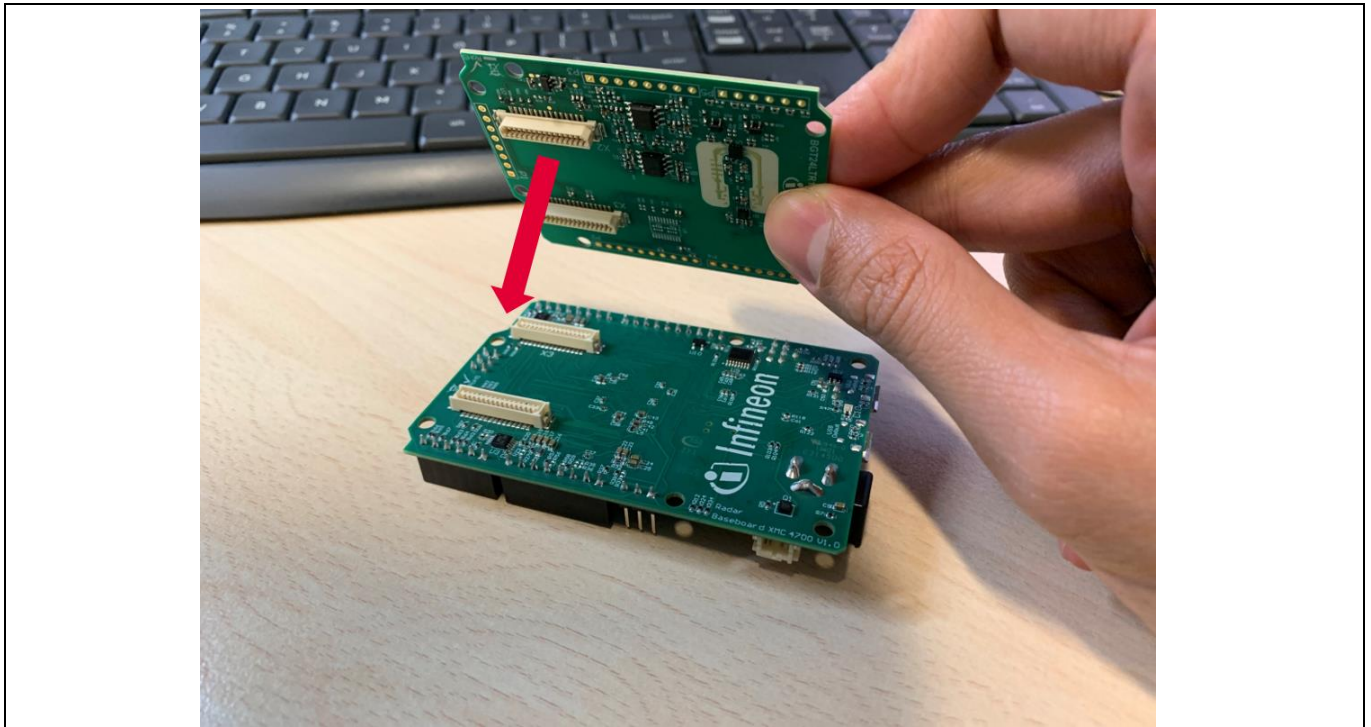

Figure 20 Attach the BGT24LTR11 radar shield to the radar baseboard XMC4700
- 4. Attach the BGT24LTR11 radar shield to the radar baseboard XMC4700 via the SAMTEC connectors (Figure 20).